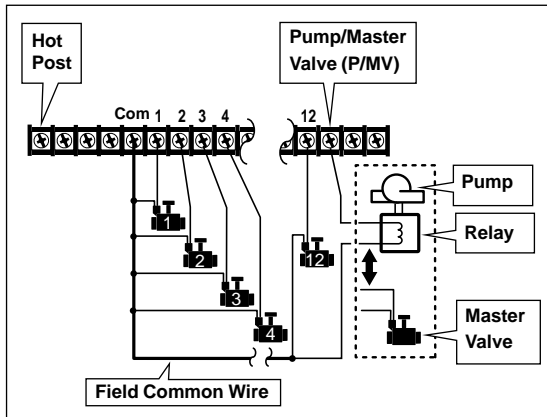

Figure 8 - Field wiring diagram.
1. To provide a field common wire, attach the white cable wire to **either** wire of each sprinkler valve solenoid and either wire of the (optional) pump start relay or master valve. Refer to **Figure 8**.